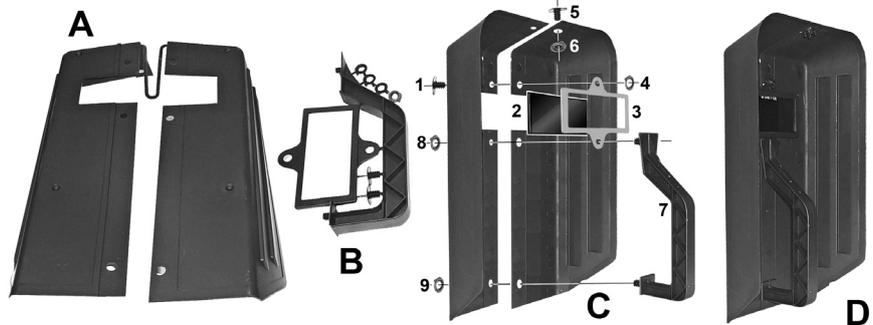

fig.3
- 4.1. Assembly:** Referring to fig.3, separate the main components of the mask as shown in A and B into their separate parts. Trim any spikes and burrs of excess plastic from the pieces in preparation for assembly.